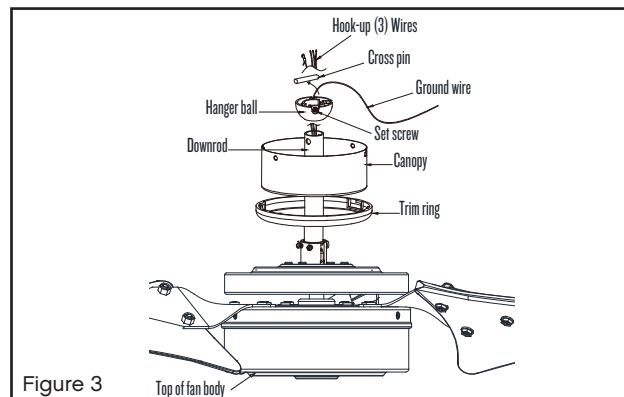

Figure 3
- 1 Slip the trim ring and canopy onto the downrod. (Fig. 3)